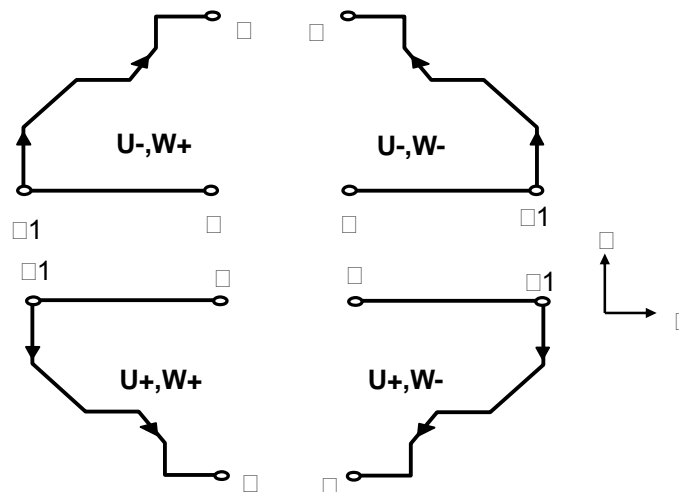

Fig. 3-37 Cutting Path of G72 Compound Canned cycle
- (1) N(ns)~N(nf) define the machining path of A1~B.
- (2) No assignment of positioning commands on X-axis is allowed from A to A1.
- (3) The feed-rate from A to A1 is either G00 or G01.
- (4) The X and Z tool path from A1 to B must be incremental or decremental.
- (5) No subprogram is available from N(ns) to N(nf).
- (6) G72 is applicable to the following four cutting types. They are all parallel to X-axis. Whether U and W are positive or negative (Fig. 3-37) is determined by the direction of tool path.